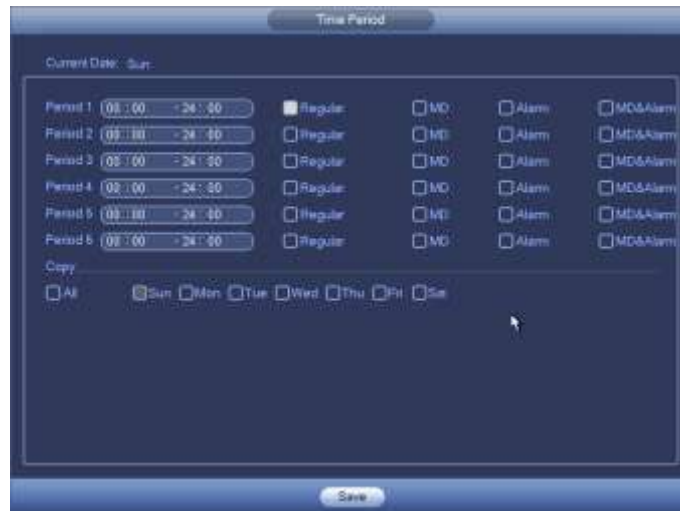

Figure 4-44
- Period setup: Click button  after one date or a holiday, you can see an interface shown as in Figure 4-44. There are five record types: regular, motion detection (MD), Alarm, MD & alarm and intelligent.